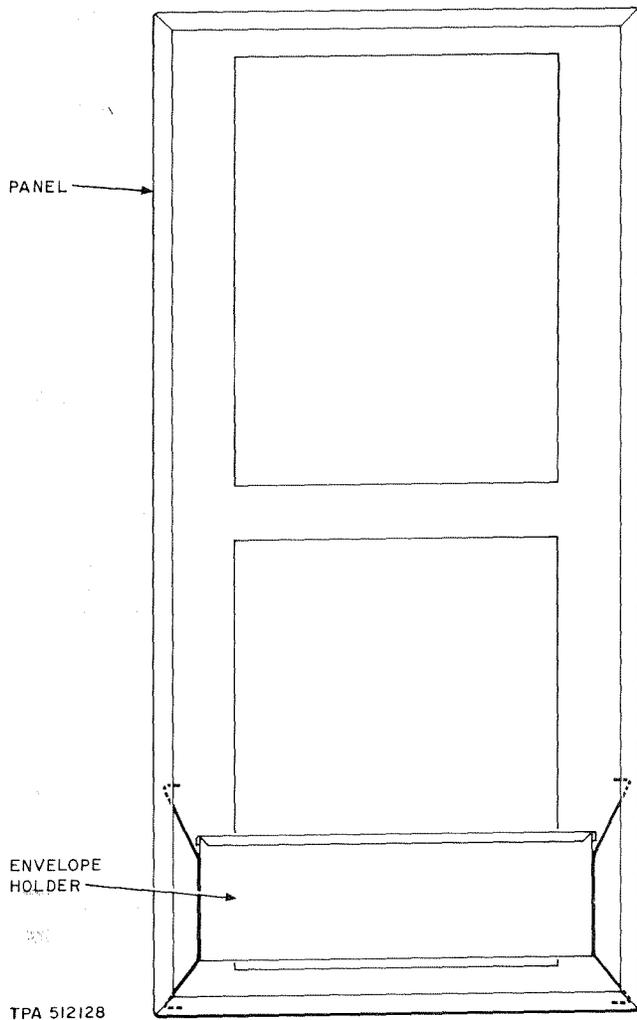

Fig. 1—Envelope Holder Installed
1.07 A set of schematic drawings and circuit description sheets are furnished with the switching equipment. An envelope holder assembly (ED-1E037-70, group 7) is available for storing these drawings in the front panel (Fig. 1).